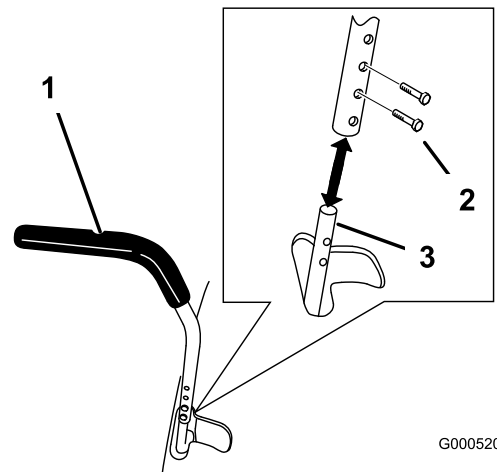

Figure 21
1. Remove the 2 bolts holding the control lever to the control arm shaft (Figure 21).
2. Move the control lever to the next set of holes. Secure the lever with the 2 bolts (Figure 21).